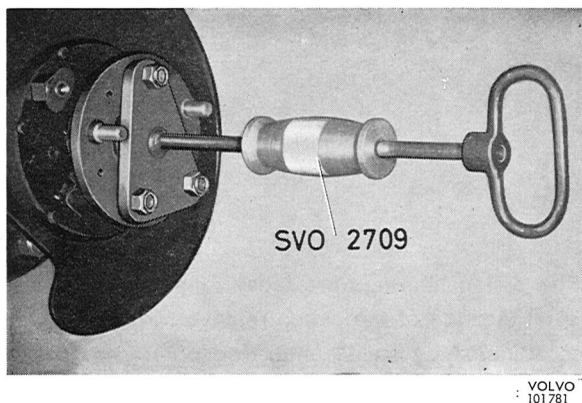

Fig. 4-144. Drive shaft removal
3. Loosen the bolts for the thrust washer. These are loosened through the holes in the drive shaft flange. Pull out the drive shaft with puller 2709, see Fig. 4-144.
2. Loosen the bolts for the brake backing plates and brake shoe retainer. They are loosened through the holes in the drive shaft flanges. Pull out the drive shafts with puller 2709, see Fig. 4-144.